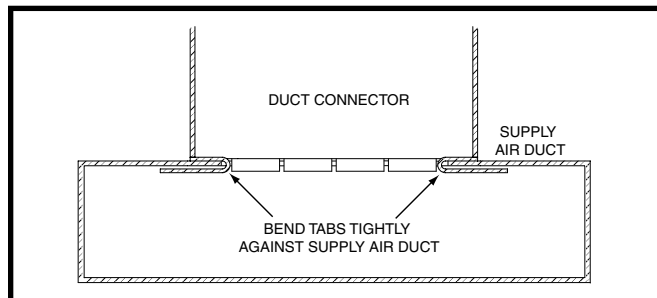

Figure 9. Duct Connector Tabs
7. Bend the connector tabs on the bottom of the duct connector upwards and as tight as possible against the supply air duct. See Figure 9.